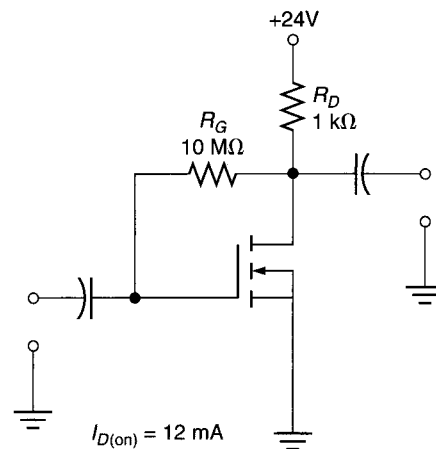

FIGURE 13.30
12. Calculate the values of  $I_D$  and  $V_{DS}$  for the amplifier in Figure 13.30.